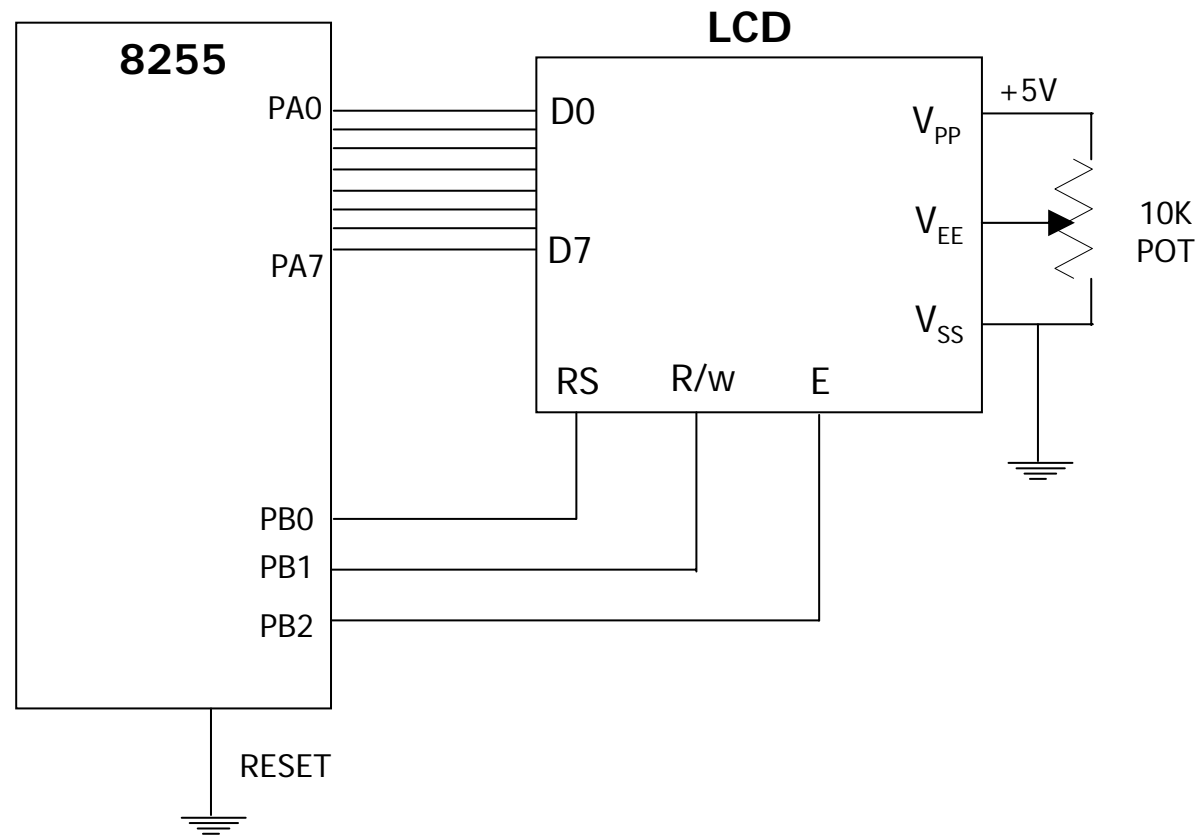

Figure 15-10. LCD Connection
- Shows how to issue commands and data to an LCD. See Figure 15-10